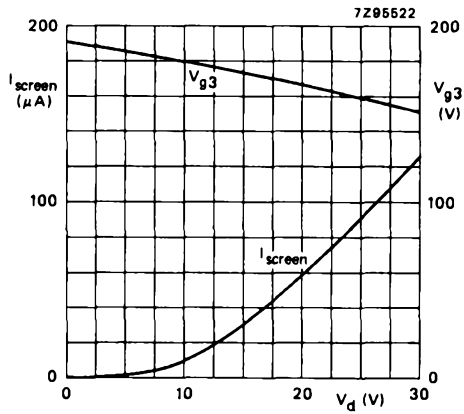

Fig. 5 Screen current (I_{screen}) and focusing voltage (V_{g3}) as a function of grid drive voltage (V_d); typical curves.
5. An actual focus range of 30 V should be provided on the front panel. V_{g3} decreases with increasing grid drive (see also Fig. 5).
6. Intensity control on the front panel should be limited to the maximum useful screen current (approx. 50 μ A; see also Fig. 5). It is to be adjusted either by the grid drive (up to 22 V) or for maximum acceptable line width. The corresponding cathode current or $I_{g_{2,g4}}$ (up to 500 μ A) depend on the cut-off voltage and cannot be used for control settings.